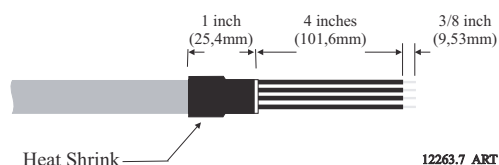

Figure 4-20: Clutch Cable Heat Shrink in Processor
- D Slide a 1 inch (24,5mm) piece of heat shrink over the end of the cable as shown in Figure 4-20: Clutch Cable Heat Shrink in Processor.